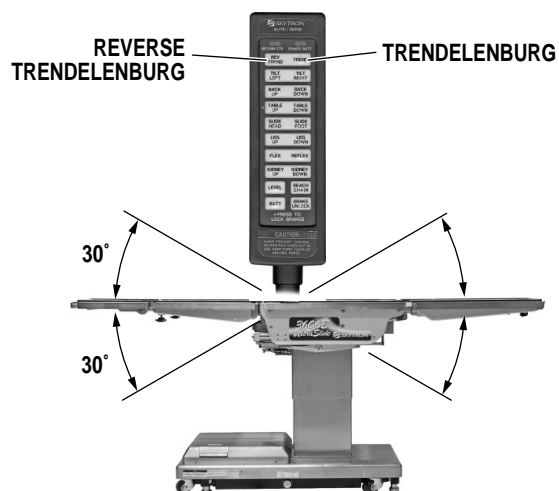

Figure 2-6. Trendelenburg Positioning
**b. Trendelenburg.** To place the table in a Trendelenburg (head down) position, press the TREND button (figure 2-6). To place the table in a reverse Trendelenburg (head up) position, press the REV TREND button. Trendelenburg positioning of up to 30° may be obtained.